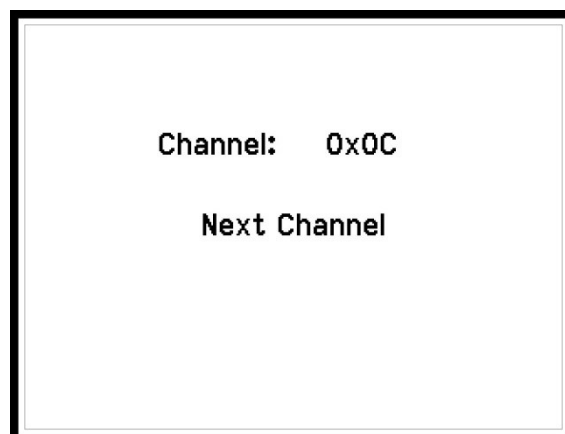

Figure 25
- Channel – Entered as per the anemometer sticker or if the sticker is missing or illegible can be scanned by pressing the **Scan Channel** button at the bottom of the screen. All the other parameters have been set i.e. PanID, DestinationAddr and Source Addr. The unit will scan through the pre-set channels (**Figure 25 & 26**) until the correct channel is found, once the unit has found the correct channel it will return to the **Wireless Setup** screen.
- DestinationAddr (DL) – Source address (MY) of anemometer head unit
- Source Addr (MY) – Destination Address (DL) of anemometer head unit